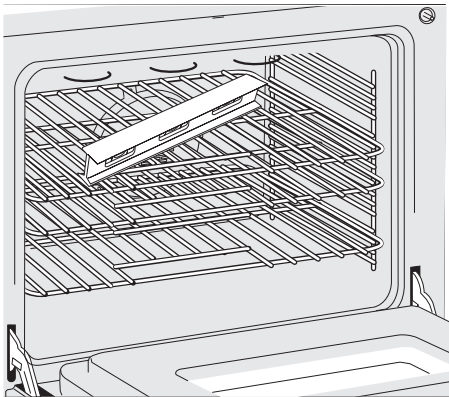
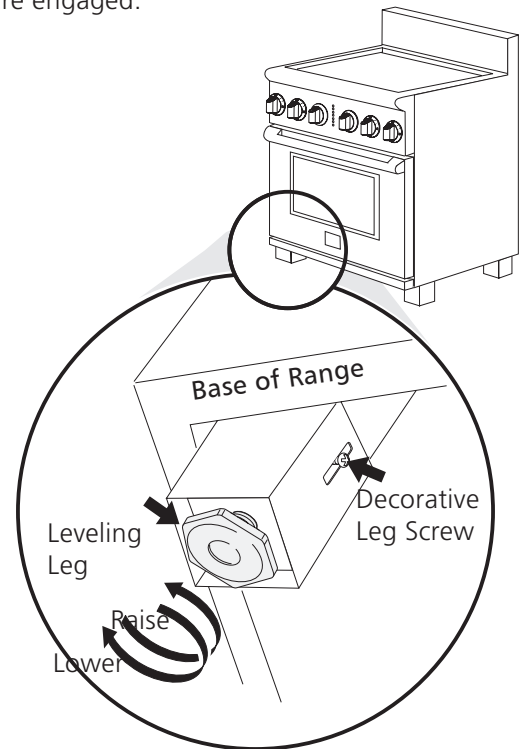

Figure 6
Figure 11
2. Place a level on the rack (see Figure 6). Take 2 readings with the level placed diagonally in one direction and then the other. Level the range, if necessary, by adjusting the 4 leveling legs with a wrench (see Figure 11).
6. Level range if necessary, by adjusting the 4 leveling legs with an adjustable wrench. Loosen the screw which fixes the decorative leg and lift it to reach the leveling leg. Turn the leveling leg counterclockwise to raise the range or clockwise to lower the range (see Figure 11). Replace the decorative legs at your convenience.